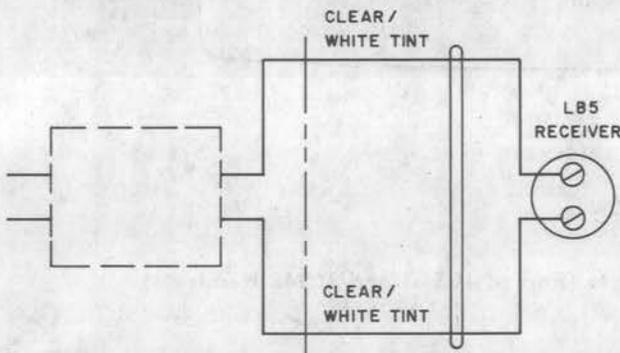

Fig. 12—1027A Headset Connecting Diagram
- (1) At the receiver end, unscrew the cap from the housing assembly.
- (2) Using the KS-2348 cord repair screwdriver, disconnect the cord terminal screws.
- (3) At the plug end using the KS-6854 screwdriver, remove the plug clamp screws.
- (4) Using the KS-2348 cord repair screwdriver, disconnect the cord terminals from the plug.
- (5) Replace cord, and connect as shown in Fig. 12.
- (6) Reassemble the parts in the reverse order of removal.